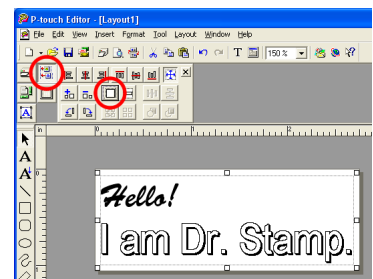

figure 9
- 3 Click the Maximum button in the Layout Properties (see figure 9).